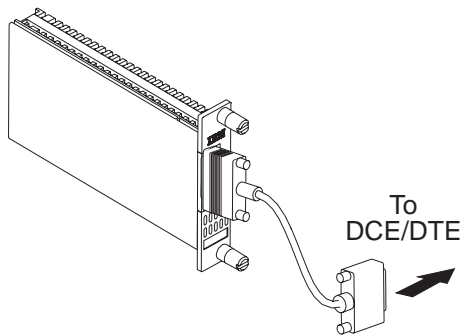
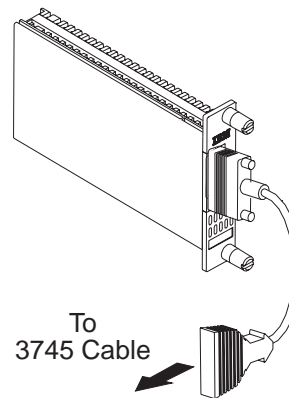

Figure 4-16. Cable Connector Type 3746-900
Figure 4-17. Cable Connector Type 3745
6. \_\_\_\_ Determine the cable connector type plugged on the ARCs (see Figure 4-16 and Figure 4-17).